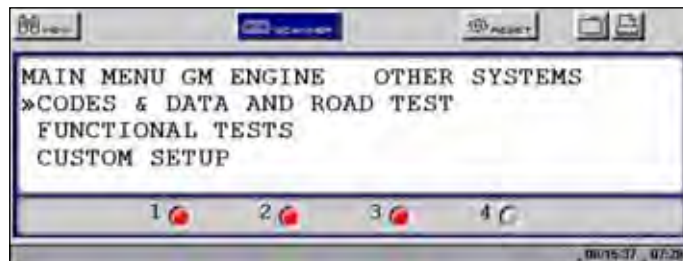

Figure 5-14 Sample Legacy Software main menu
2. Select **Other Systems** (Figure 5-14).